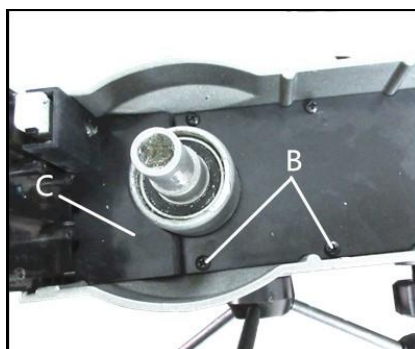

Fig 12
- (ii) Take off both fixing screws (B, Fig 12) and the dust proof cover (C, Fig 12)